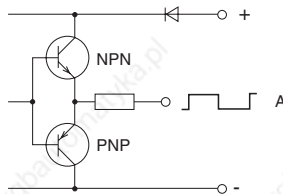

Figure 3.10 Block diagram, HTL output circuit
(1) Only encoder type HTL (24V supply) usable. The encoder is evaluated only in control mode FOR. For notes on the rotary encoder see Figure 3.10.